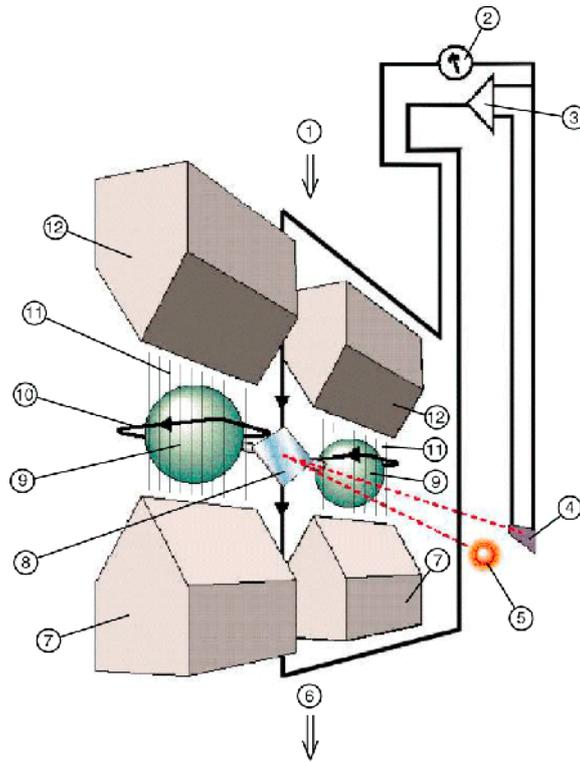

Figure 23 Schematic of Servomex
Permanent magnets (7 and 12) in the sensor of the oxygen analyzer provide a symmetrical magnetic field (11) (Figure 23). The magnet field contains two nitrogen-filled quartz spheres (9) arranged in the form of dumbbells at the location of the highest field strength. The dumbbell is suspended rotating from a taut platinum band. A reel of platinum wire is wound around the dumbbell as a feedback coil (10).